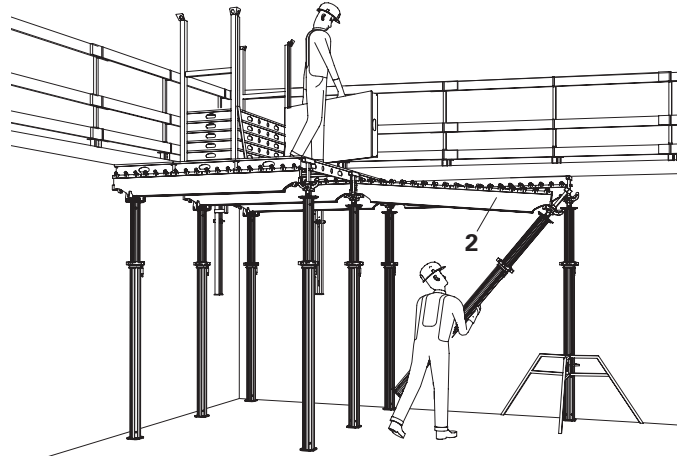
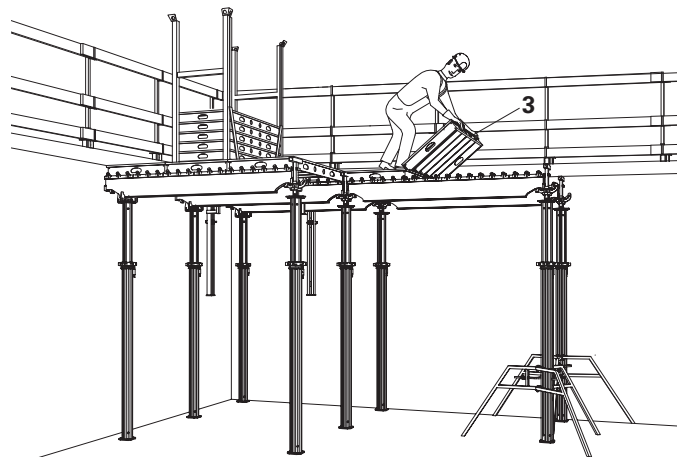

Fig. 18
Fig. 19
1. Attach Main Beam SLT 225 (2) to the drophead.
- (Fig. 18)
6. Install panel (3).
- (Fig. 19)